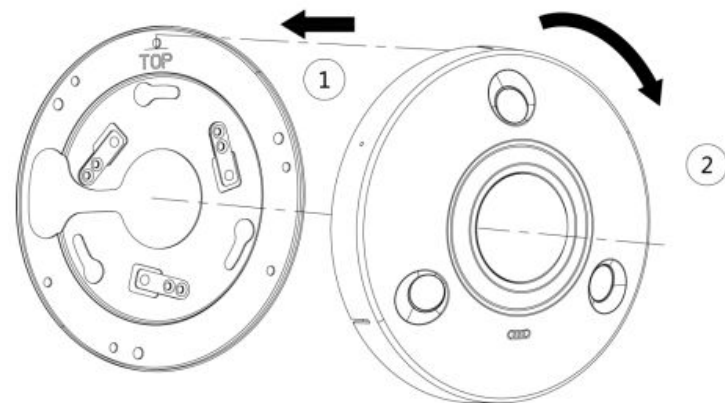

Figure 2-4
Step 4 Take the camera and align the locking notch on the body with the base plate tab to the open position, then rotate clockwise to the locked position as shown in Figure 2-4.